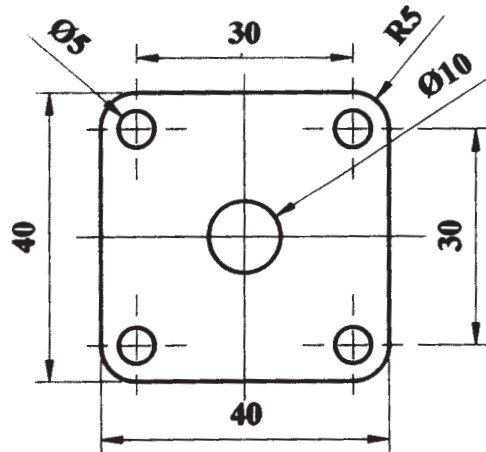

Fig. 4: Structural steel 1mm thick
- Q5)** Design a progressive die for the component shown in fig.4. (Given :- $\tau = 300\text{N/mm}^2$).